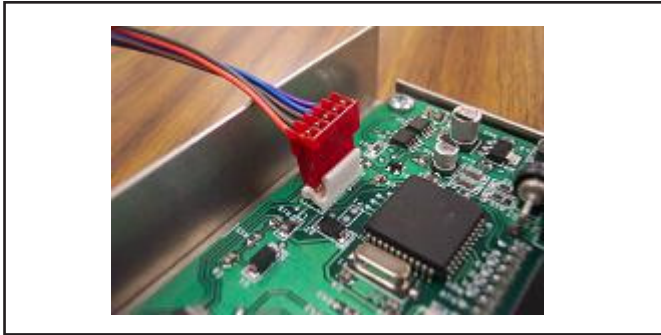

Figure 4.
3. Take the other end of the in-circuit programming cable and connect it to the Arjent S2 interface module's programming header. See figure 4.